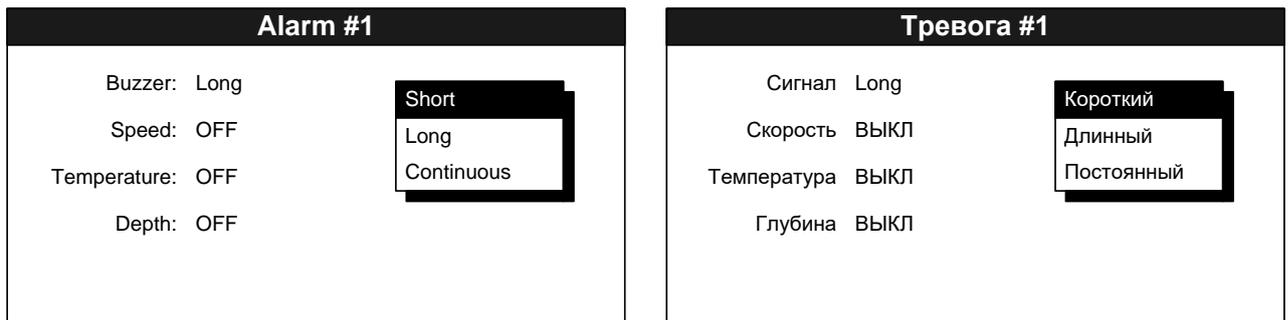

Figure 26 – Select of signal parameters
- use navigation buttons to select “Buzzer”, see Figure 26 and press “ENTER”;
– use “▼” and “▲” buttons to select a sound alarm type, see Figure 26 and press “ENTER”. Press “MENU” to exit the alarm settings menu and access the main menu.